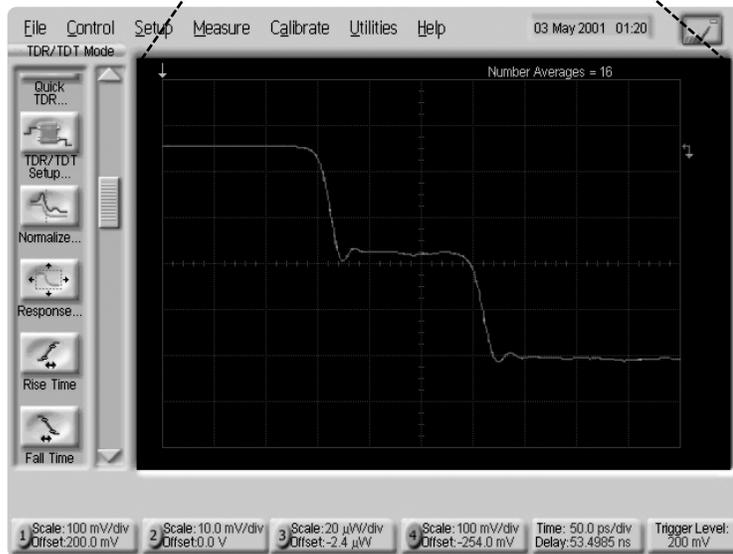

Figure 7. Inverted "open" step waveform after scale adjustment.
6. Turn the larger "Horizontal knob" clockwise and the smaller "Position/Delay" knob counterclockwise to get a closer view of the step. Or you can press the <Time Delay> icon on the bottom of the screen and type a value that suits your setup. Also, press <4 Scale/Offset> on the front panel to adjust the scaling and offset. Refer to Figure 7 for an example, although values will vary depending on each individual setup.